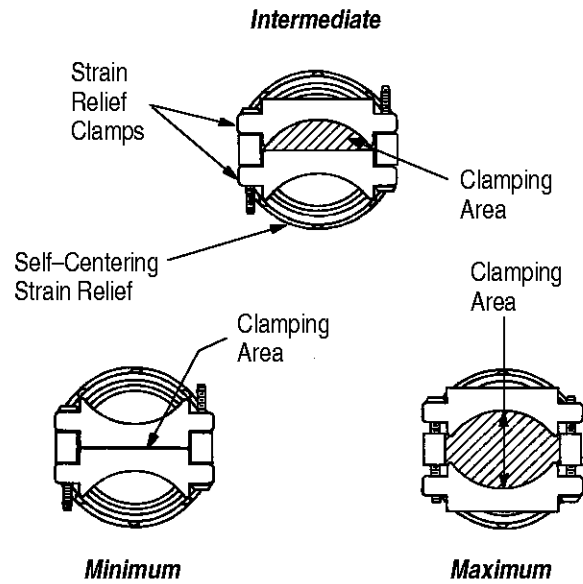

Figure 3
*Strain Relief Kit 207774–1 for Size 23 comes with two clamps which can be configured as shown in Figure 3. The clamps are self–centering.*